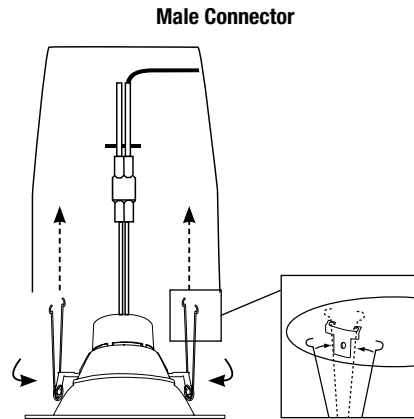

Figure 4
2. Squeeze in mounting blade on both side and carefully push fixture into the housing (Figure 4)